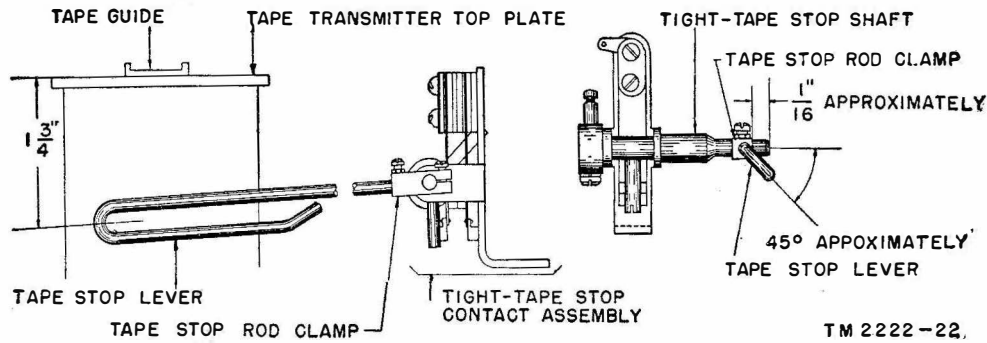

Figure 32. Loop-style tight-tape stop mechanism.
*b.* TIGHT-TAPE STOP MECHANISM. The tight-tape stop mechanism (sometimes called the auto-stop mechanism) is designed to stop transmission automatically if the tape which is feeding into the transmitter becomes tangled or if all the slack is taken up in the tape; thus mutilation of the tape-feed holes is prevented. The normal operating position of the tight-tape stop lever is approximately parallel to the base of the transmitter distributor. The contact operating post bears against the tight-tape stop (fig. 32) contact insulator and holds the contact closed. When the slack in the tape is taken up, or a tangle in the tape reaches the tight-